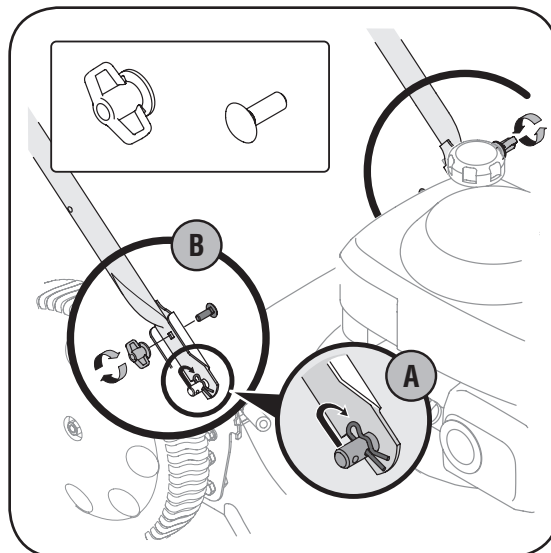

Figure 3
- Remove hairpin clip from this hole. Using a pair of pliers, insert hairpin clip into the other hole on the weld pin. Repeat on other side. See Figure 3.
- Place one carriage bolt (found in the hardware pack included with your unit) in the upper hole of the right handle mounting bracket from the inside outward. See Figure 3. Secure with one wing nut. Repeat process on the left side.